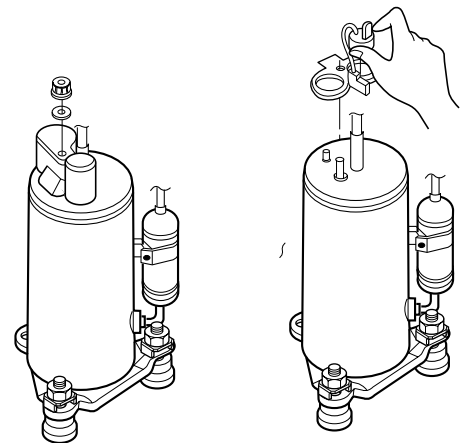

Figure 24
6. Re-install the components by referring to the removal procedure above. (See Figure 24)